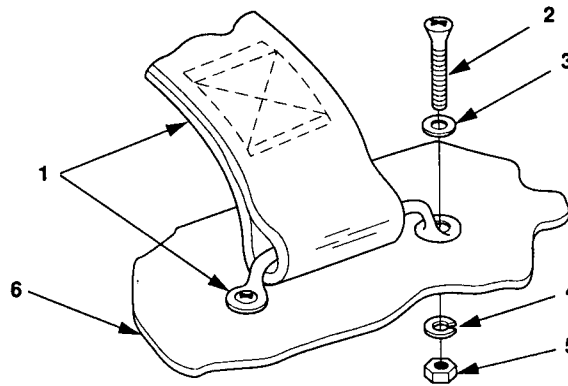

Figure 4-18. Strap Assembly Maintenance.
1. Remove two nuts (5 , figure 4-18) , lock washers (4), flat washers (3), and screws (2) that secure strap assembly (1) to trailer chassis.
2. Remove strap assembly (1).